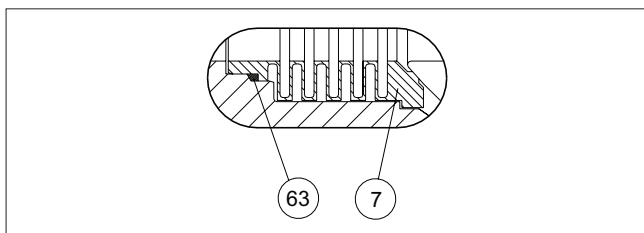

Fig. 15 H seat
- Place the back seal (63) into the seat (7). See Figure 15.